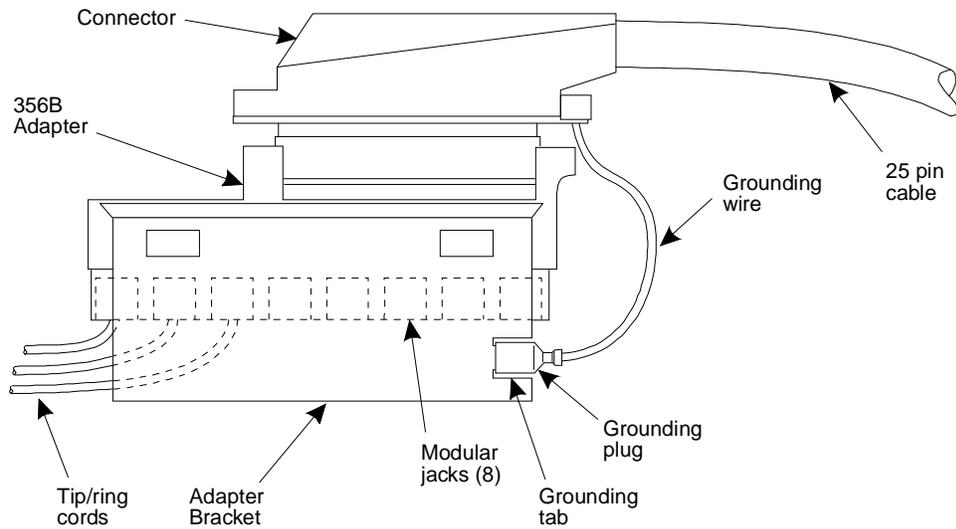

Figure 8-1. Assembly of the MAP/40 Tip/Ring Distribution Hardware with 356B Adapter
The Tip/Ring distribution hardware with the 356B adapter (Figure 8-1) comes in a kit which consists of:
12. Plug the 3-foot, 6-pin modular cords from the T/R cards into the 356B adapters. Each adapter can accommodate eight modular cords (Figure 8-1).